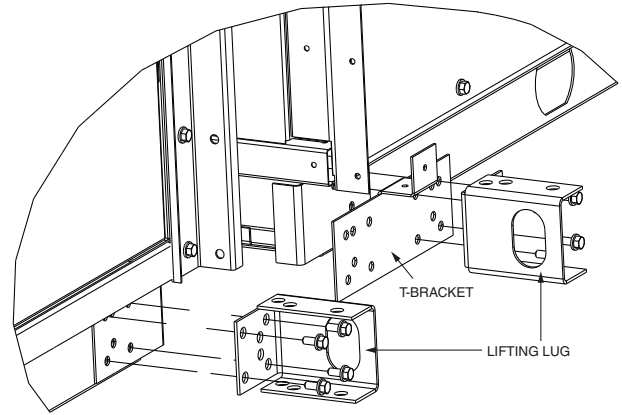

Fig. 14 — Base Rail Split — T-Bracket
1. Remove the lifting lugs on the inlet side of the coil/fan section and those on the outlet side of the accessory section to liberate the T-bracket. See Fig. 14.